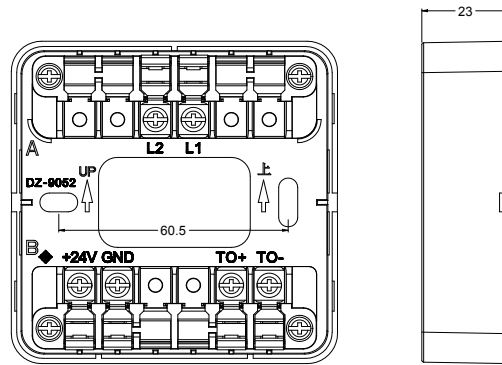

Fig.2 Base of the AW-D310 Module (unit: mm)
- 1) Terminal description for the AW-D310 module (see Fig.2)
- 4) Use two M4 screws to fix the module base via the two screw holes shown in Fig.2, then insert the main body of the AW-D310 module into the module base and make sure they contact each other properly.